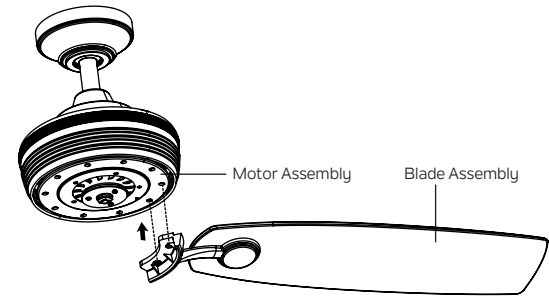

Fig. 19
**Step 2.** Fasten blade assembly to the holes located on the bottom of the motor assembly. Tighten the two pre-installed motor screws in the blade bracket. (Fig.19)